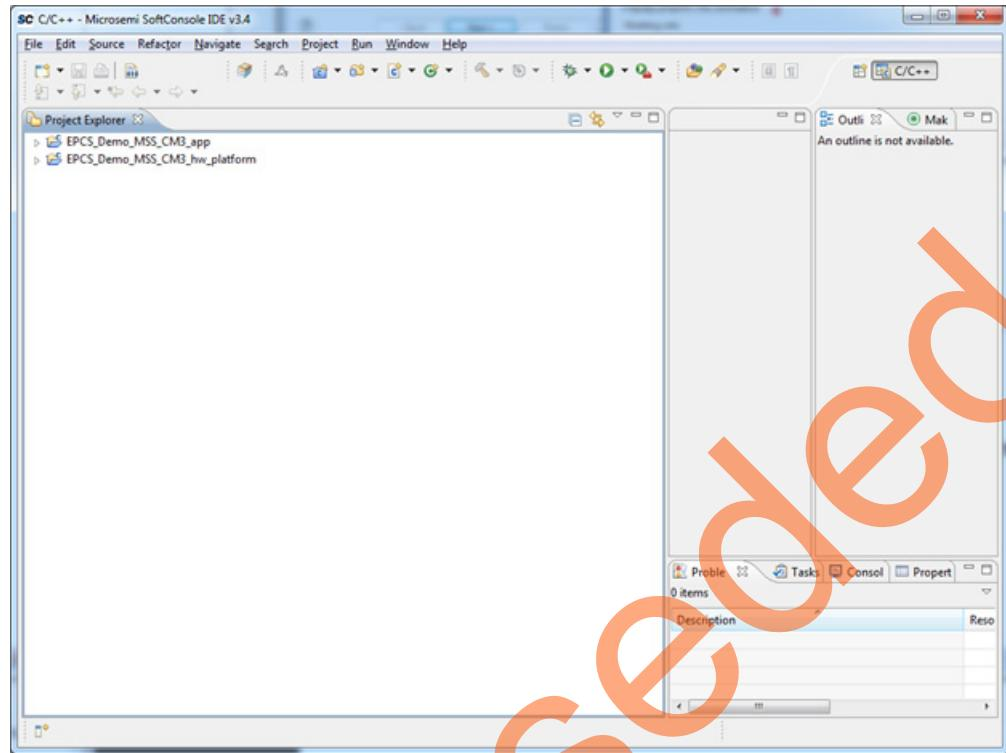

Figure 52 • SoftConsole Workspace
- f. Click **Finish**. The **SoftConsole Workspace** window is displayed as shown in Figure 52 on page 52.